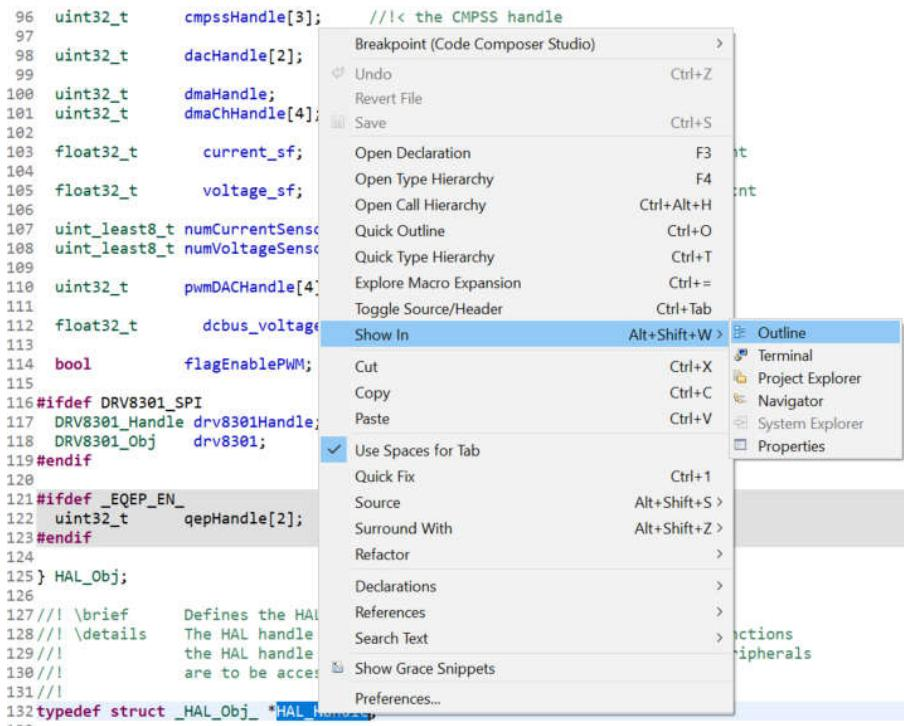

Figure 11: To show HAL_Handle and _HAL_Obj_ in Outline
2. With the file “hal_obj.h” now open, right- mouse click on HAL_Handle and select “Show In Outline” as shown in **Figure 11**.